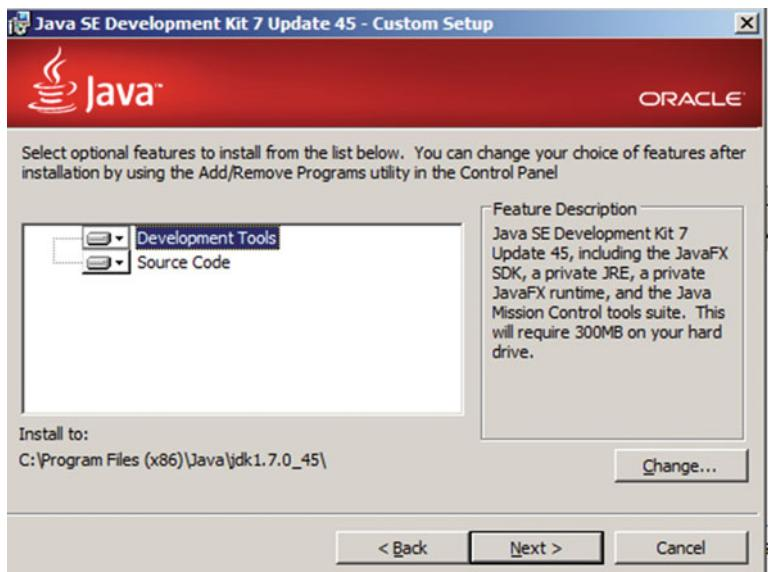

Figure 1-4. Step 2 of the JDK installation
2. Install the JAVA JDK to the path C:\Program Files (x86)\Java\jdk1.7.0_45, choose all components, and click the *Next* button, as illustrated in Figure 1-4. It will then install JDK components that you chose.